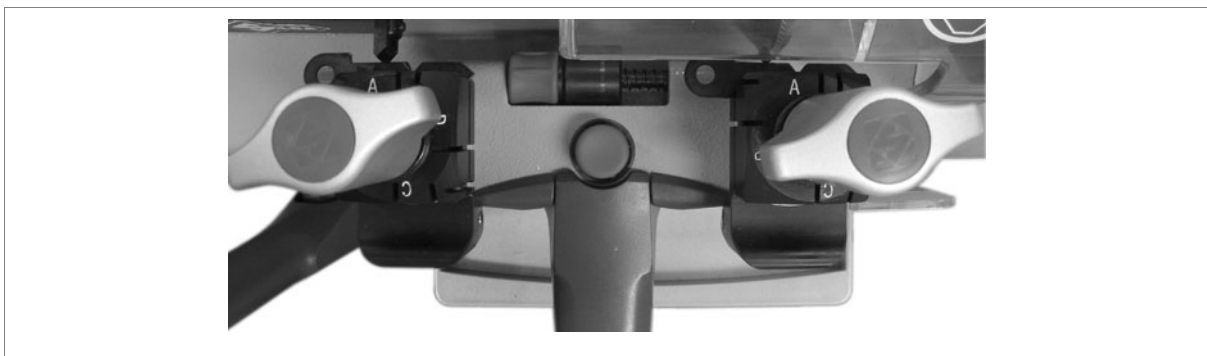

Fig. 18
- 5) Take the flat part of the key into contact with the cutting tool and tracer point (fig.18).